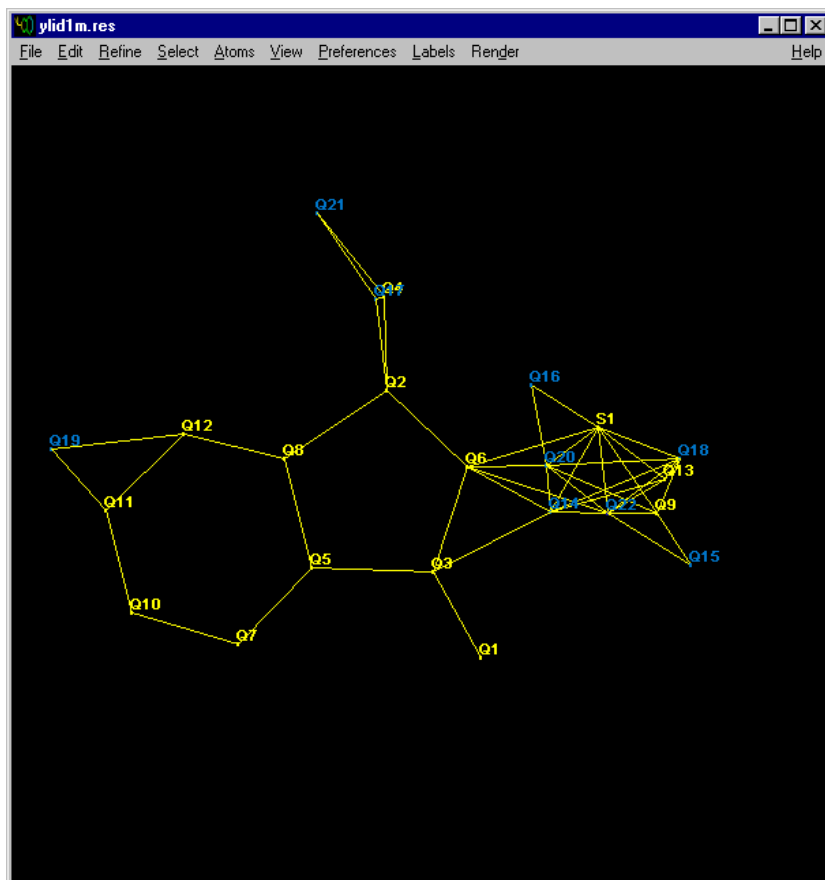

Figure 6-19. Fourier peaks
21. Click on the XSHELL button to start the XSHELL program. The Fourier peaks will be displayed (Figure 6-19).